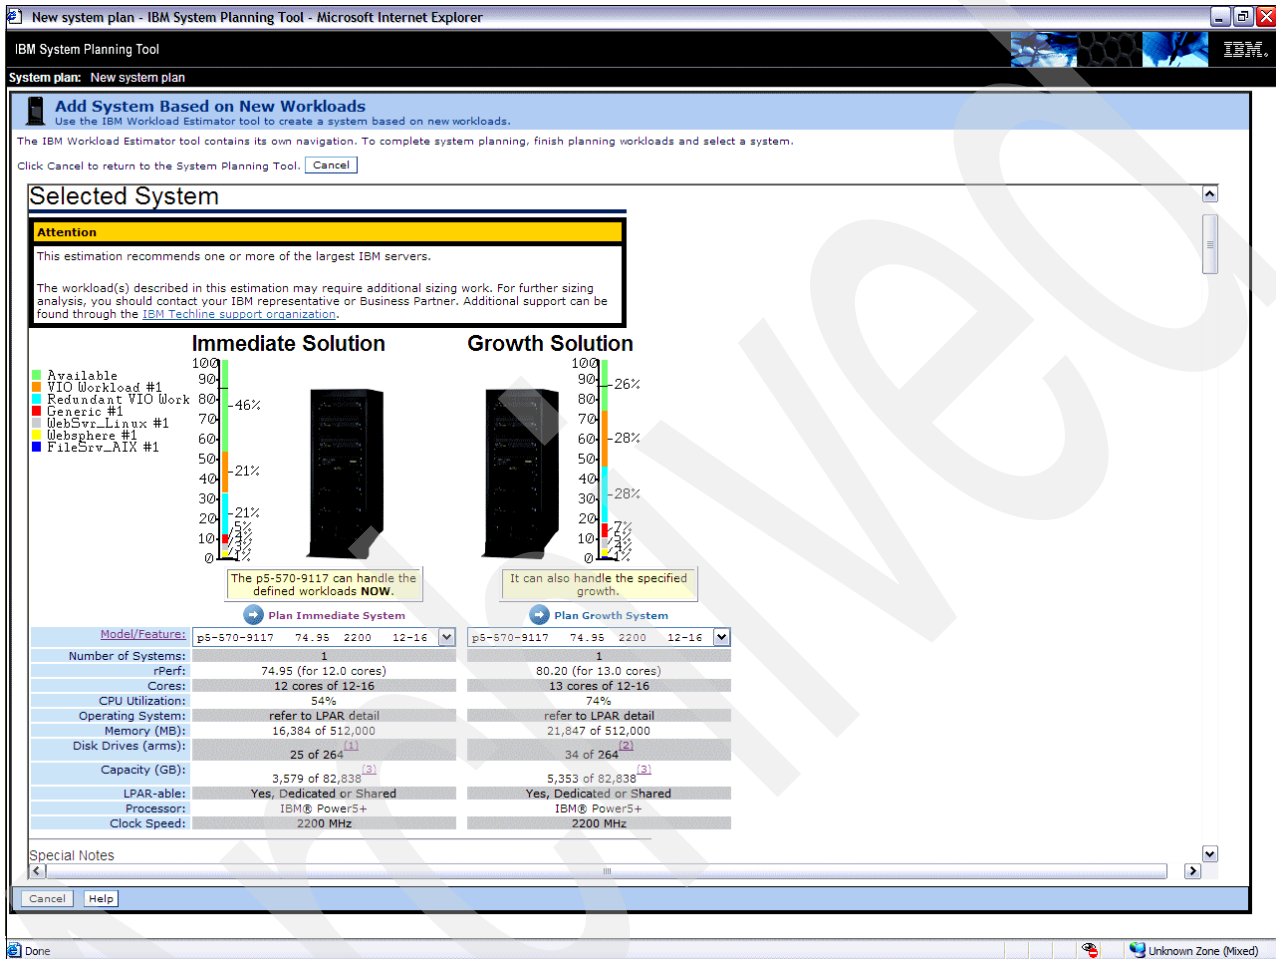
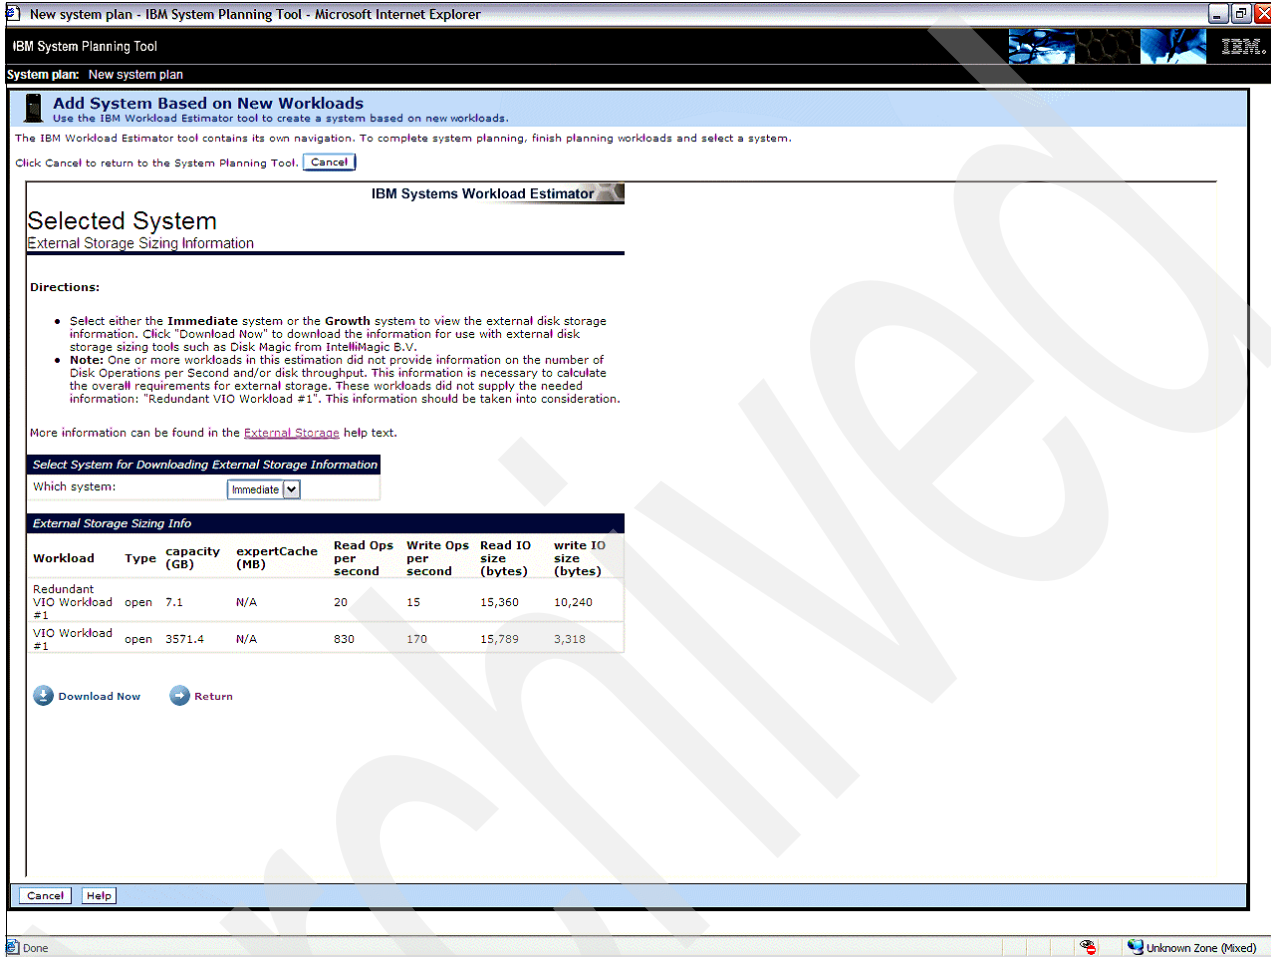
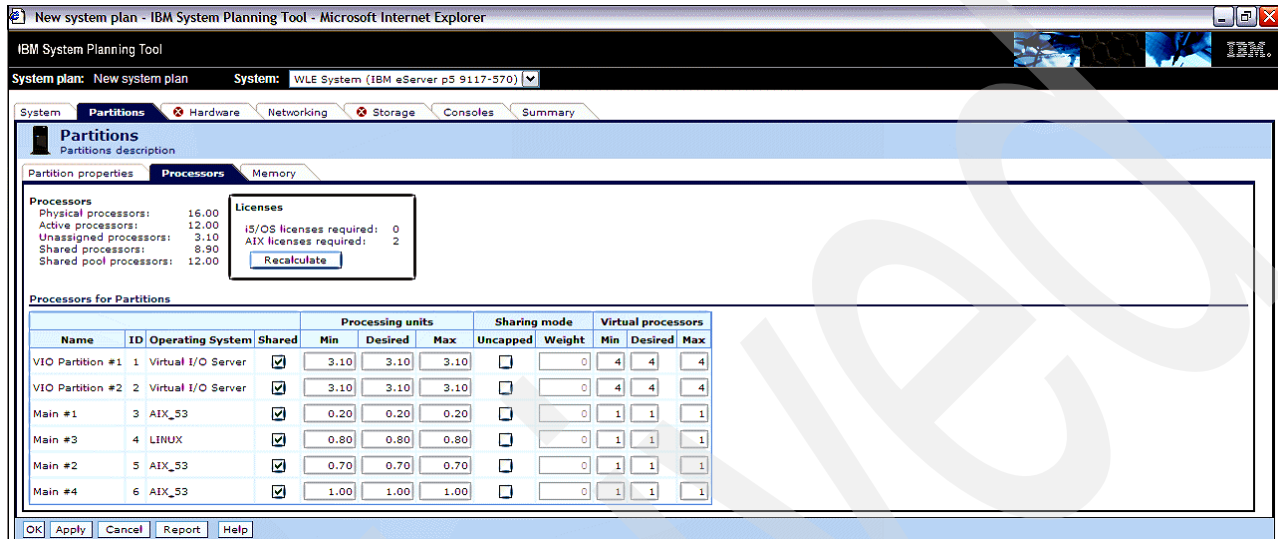

Figure 5-33 WLE selected system
Figure 5-34 WLE show calculated information for a SAN
Figure 5-37 Processor definition
13. WLE presents the selected system based on the workload analysis. Figure 5-33 shows the selected system. From this window you create a PDF document, return back to change a workload, chose to export the information for external storage, and save the results of the analysis. If you select to see the external disk requirements you are presented with the window shown in Figure 5-34 on page 182 to see the requirements. You can select the immediate or growth result, which are circled in red, to return to System Planning Tool Version 2.
14. Since the Virtual I/O Server can use external storage, WLE calculates the amount of disk needed. From this window you can download the information to go into DiskMagic. Figure 5-34 shows the option. In this example we show no further processing under DiskMagic, which is beyond the scope of this publication. Click **Return** to get to the selection of the system to return to System Planning Tool Version 2.
17. Click the **Processor** tab to see the definition of each partition processor allocation. These are the allocations from WLE and are shown on the window (Figure 5-33 on page 181) by using the slide bar on the right of the window to see the partition information based on the desired workload. Figure 5-37 allows you to change the allocation if more or less processors are desired for a partition. The virtual processors are rounded up to the next whole number, which is the recommended value. However, they may be increased to a larger number after careful evaluation.